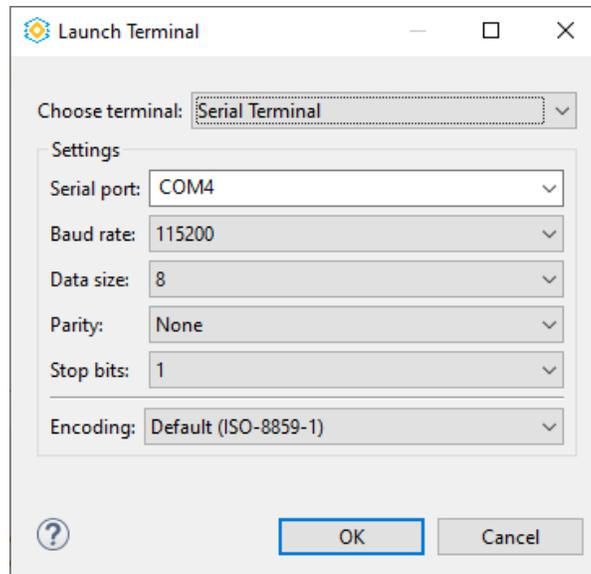

Figure 6.10. Serial Terminal Settings
7. Configure the terminal settings to be a Serial Terminal with the appropriate **Baud rate, Data size, Parity, Stop bits, and Encoding**, as shown in Figure 6.10. Click **OK** to launch the **Terminal** pane at the bottom of the Lattice Propel software window. Note that the **Serial port** varies depending on the computer setup.